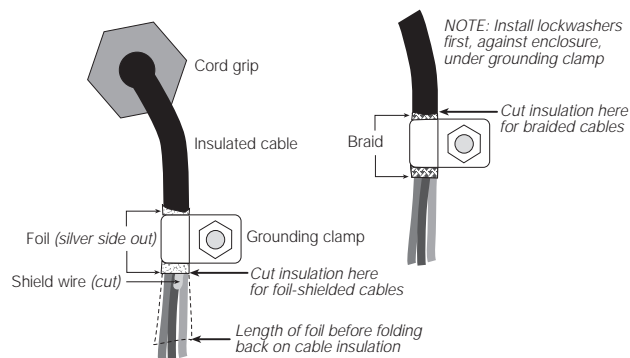

Figure 2-1. Grounding Clamp Attachment for Foil-Shielded and Braided Cabling
- For cables with foil shielding, strip insulation and foil from the cable half an inch (15 mm) past the grounding clamp (see Figure 2-1). Fold the foil shield back on the cable where the cable passes through the clamp. Ensure silver (conductive) side of foil is turned outward for contact with the grounding clamp.
- For cables with braided shielding, strip cable insulation and braided shield from a point just past the grounding clamp. Strip another half inch (15 mm) of insulation *only* to expose the braid where the cable passes through the clamp (see Figure 2-1).
- Route stripped cables through cord grips and clamps. Ensure shields contact grounding clamps as shown in Figure 2-1. Tighten grounding clamp nuts.